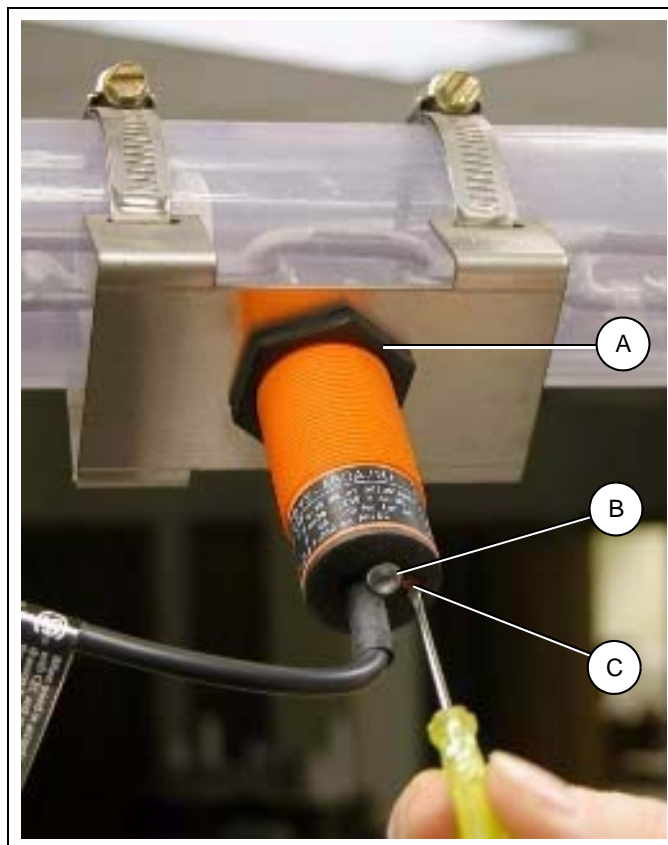

Figure 13L
3. The proximity switch must touch the clear tube. Adjust the top plastic nut until the top of the switch is touching the tube. Adjust the bottom plastic nut to secure into place. (See Figure 13L on Page 42.)
3. If the light is ON when the tube is empty, the switch is too sensitive. You must reduce the sensing distance by turning the sensitivity adjustment screw counterclockwise. To increase the sensing distance adjust the screw clockwise. (See Figure 13L.)